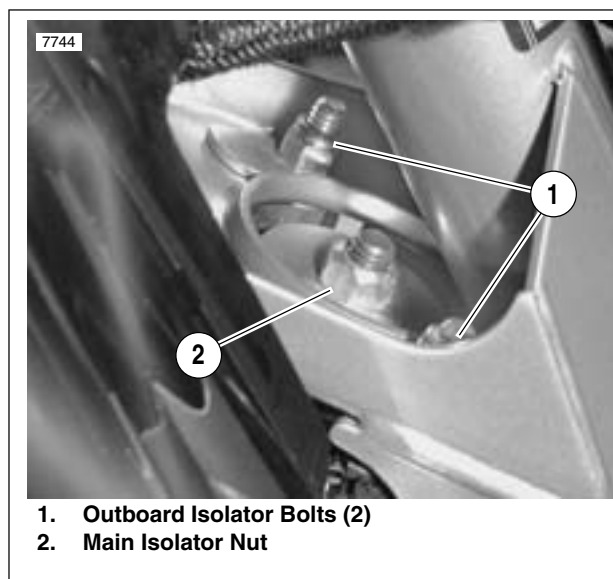

Figure 2-113. Front Isolator Bolts
8. See Figure 2-113. Remove two outboard isolator bolts (1).
9. Remove main isolator bolt (2) and nut. Discard nut.
1. See Figure 2-113. Position new isolator in frame.
2. Install two outboard isolator bolts (1). Torque 30-33 ft-lbs (41-45 Nm).
3. Install main isolator bolt and **new** nut (2). Tighten main isolator bolt to 63-70 ft-lbs (85-95 Nm).